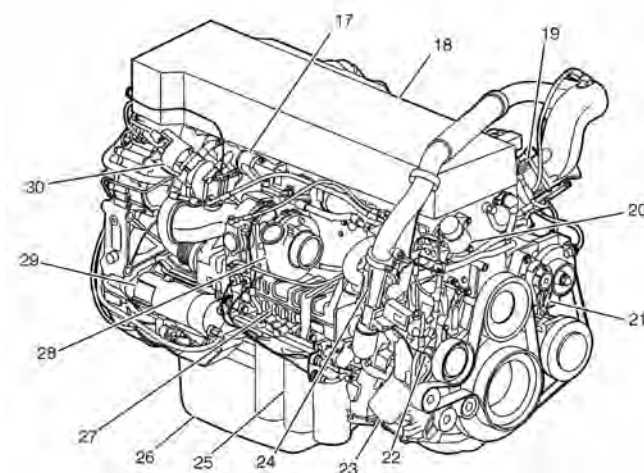

FIGURE 1: D13H ENGINE OVERVIEW, TURBO SIDE
3. While proceeding from under the vehicle, gain access to the starter (item 29 on FIGURE 1) on the turbocharger side (street side).